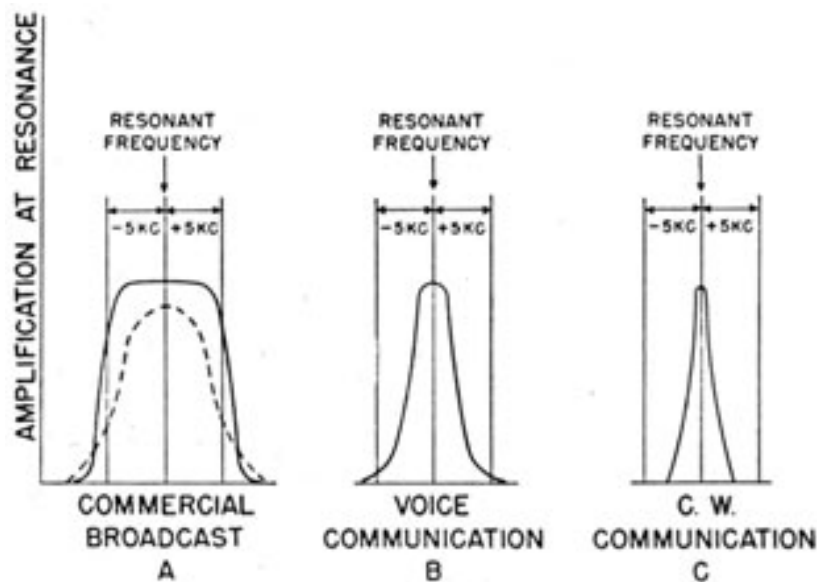

Figure 125.-Band widths of various types of receivers.
C.W. code can be more selective than a voice receiver. A communications voice receiver is designed to tune more sharply than a common broadcast receiver that you'll use to pick up Dinah Shore and Benny Goodman. In general, communication receivers do not make good instruments for receiving music. The reason why is illustrated in figure 125.
Figure 125 shows the best **TUNING CURVE** for a broadcast receiver. The top is broad and flat and the sides are steep. Most cheap broadcast receivers have tuning curves as shown by the broken lines. This design permits a lot of station interference resulting in low fidelity.